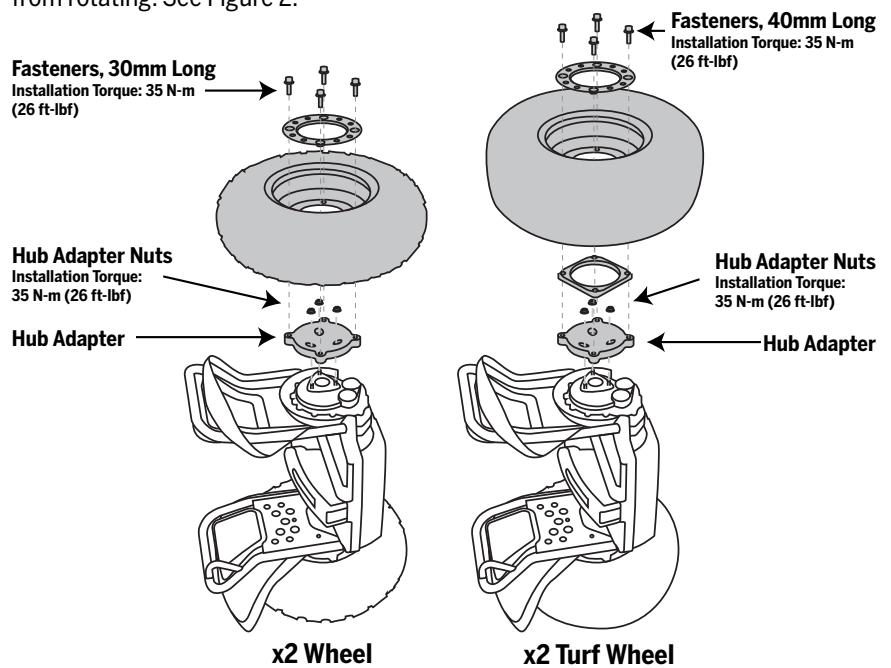

**Figure 1.** Removing or Installing the Tire & Wheel Assembly
2. To remove the Tire & Wheel Assembly, Wheel Trim and Spacer (x2 Turf only), tip the Segway PT onto its side so the wheel you want to remove is facing up, and the other wheel rests against a clean, smooth surface. See Figure 1.
3. Remove the (4) fasteners with a 8mm hex wrench. Hold the wheel to keep it from rotating. Lift off the wheel and clean all debris from the wheel's mounting surfaces. For x2 Turf: Lift off the Spacer as well. See Figure 1.
4. To re-install the Tire & Wheel Assembly and Trim, place the wheel over the hub adapter with the valve stem facing outward. For x2 Turf: Place the Spacer over the hub adapter, then place the wheel over the spacer. See Figure 1.
5. Place the trim over the wheel. Thread (4) 30mm long fasteners, included with this kit, through the trim and wheel and into the hub adapter. For x2 Turf: Thread (4) 40mm long fasteners, included with this kit, through the trim, wheel and spacer and into the hub adapter.